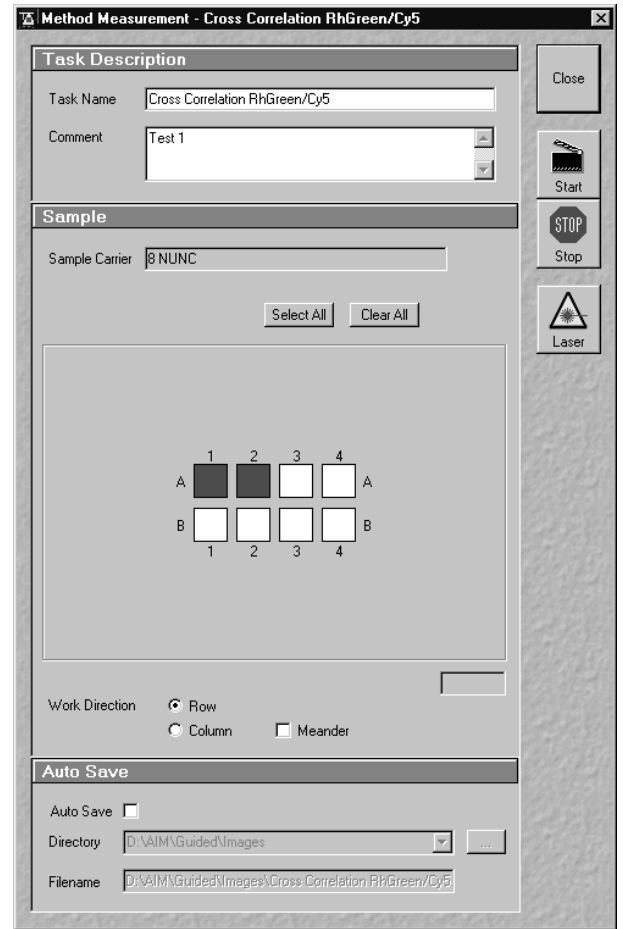

Fig. 5-172 Method Measurement ... window
- The **Method Measurement ...** window will appear on the screen (Fig. 5-172). The name of the currently used method will appear in the status bar of the window.